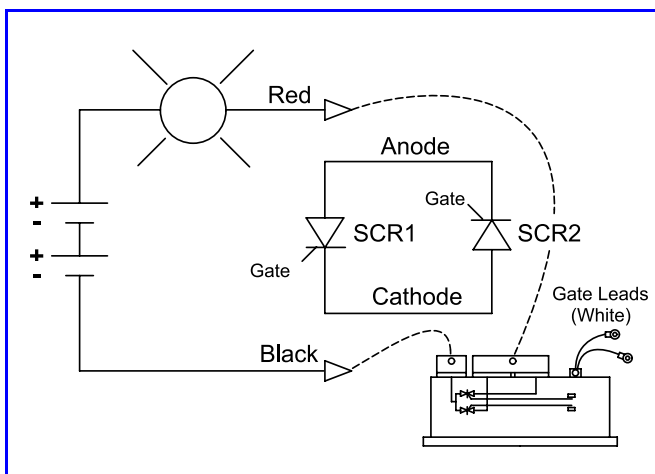

Figure 36 Testing SCR1
4. Place the red lead and black lead in circuit back-to-back across the SCR combination as shown in **Figure 36**. This tests SCR1.